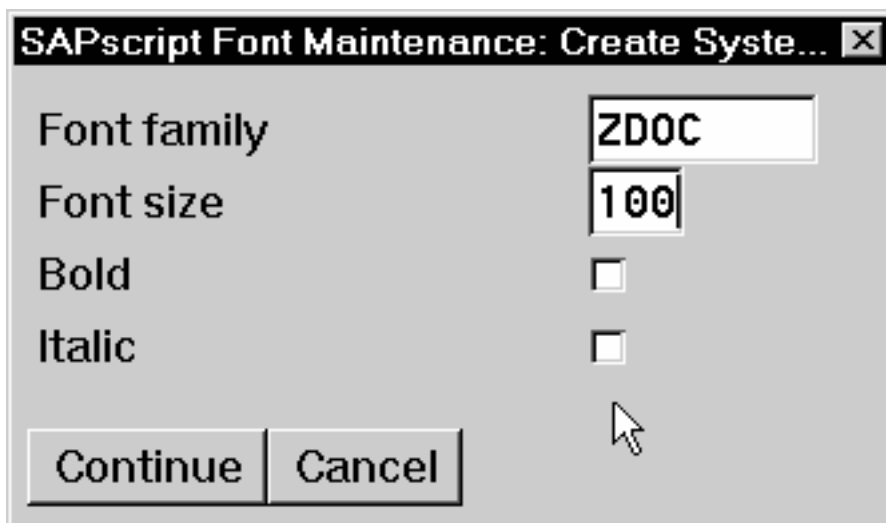

Figure 65. SAPScript Font Maintenance Create System... window
7. Fill in the information from the Create System... window as shown in Figure 65: